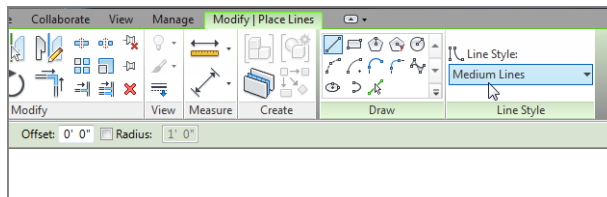

FIGURE 12.79: Select Medium Lines under Line Style.
7. In the Line Style menu, select Medium Lines, as shown in Figure 12.79.